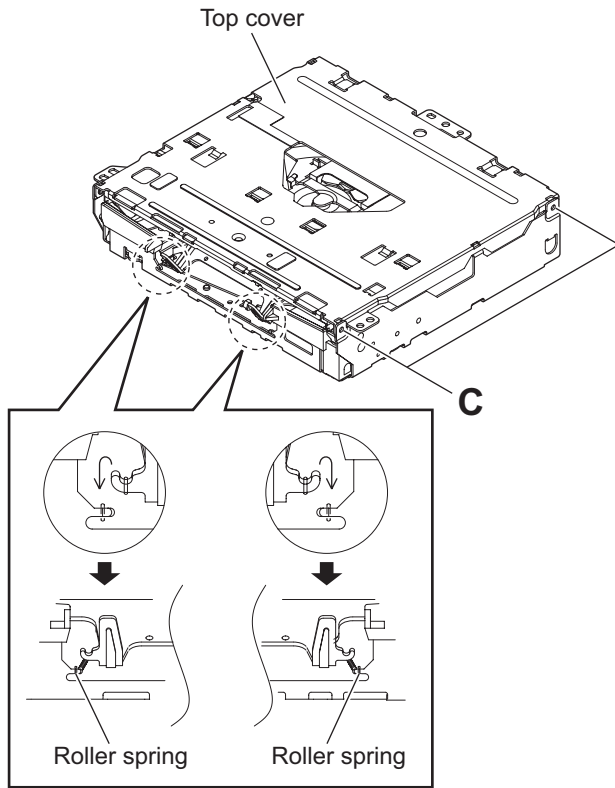

Fig.3
3.2.2 Removing the top cover (See Fig.3 to 5)
- From the front side of the CD MECHANISM assembly, change the hook position of the two roller springs. (See Fig.3.)
- From the side of the CD MECHANISM assembly, remove the six screws **C** attaching the top cover. (See Fig.3 and 4.)